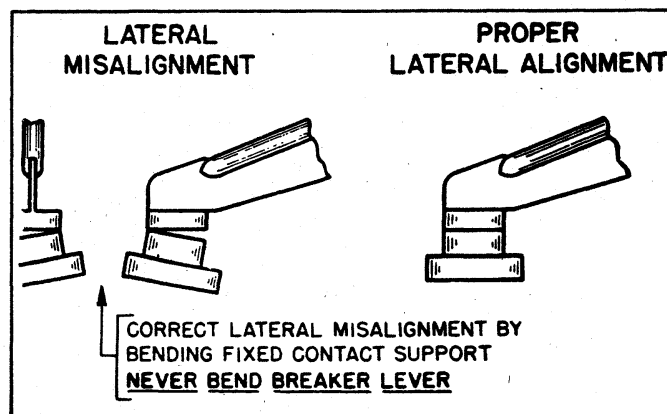

Fig. 9i—Alignment of Points
1. If necessary, align points (fig. 9i) by bending the fixed contact support. Do not bend the breaker lever. Do not attempt to align used points; replace them where serious misalignment is observed. Use an aligning tool if available.